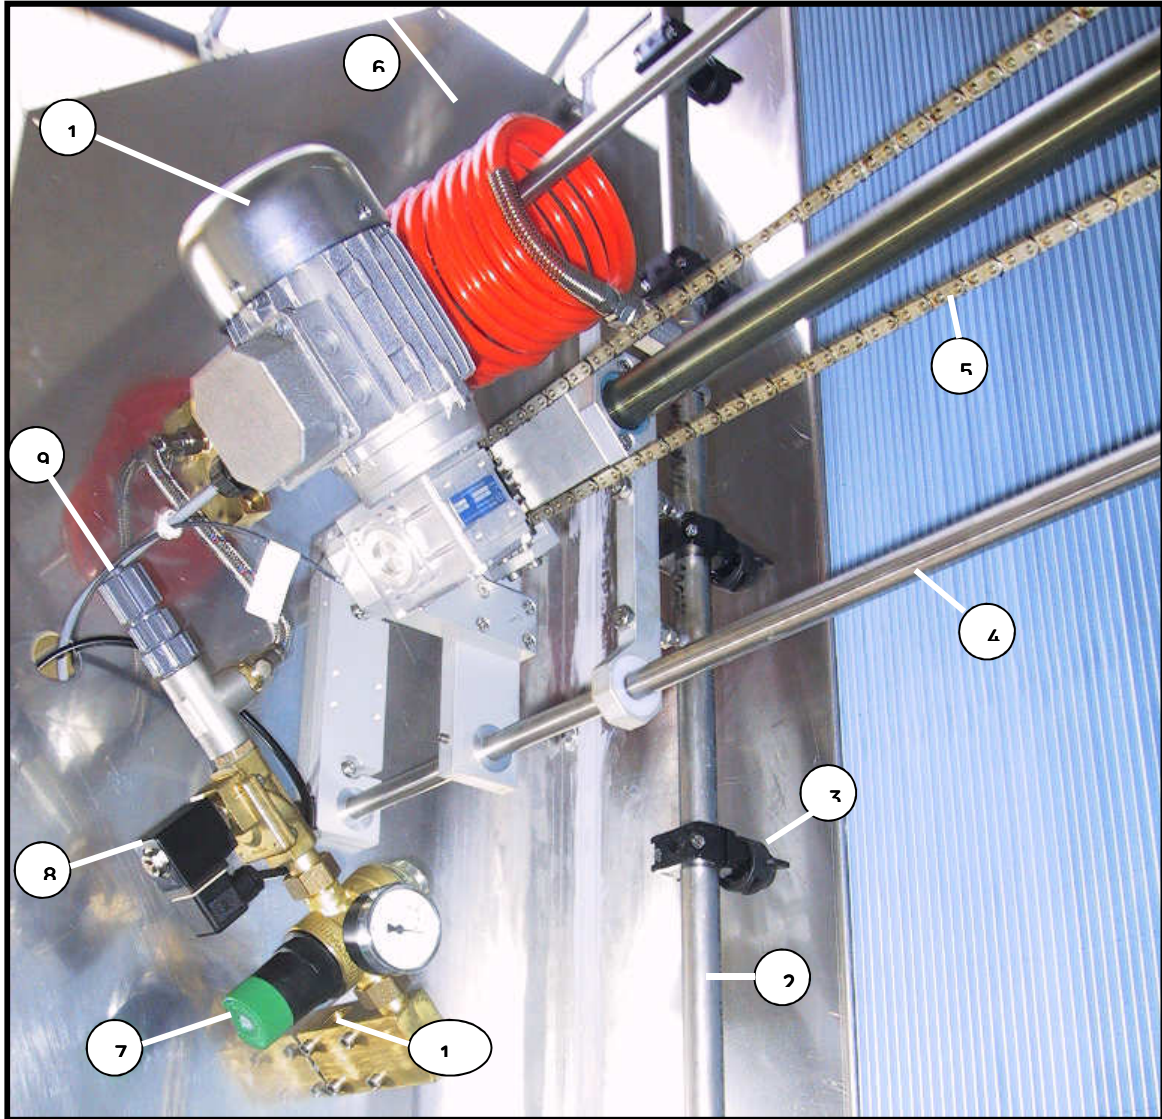

Figure 4 Softcool drive unit
- Complete cleaning of sliding piece and shaft. Lubrication of the sliding piece and the shaft (Figure 4) with Molykote BR2.